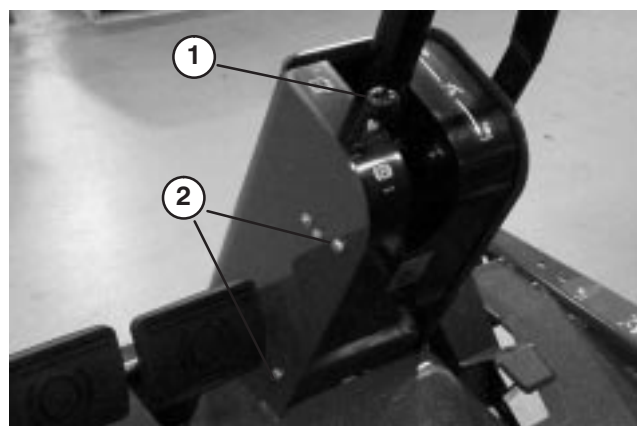

Figure 55
1. Remove knob from parking brake and screws from steering column cover (Fig. 55).